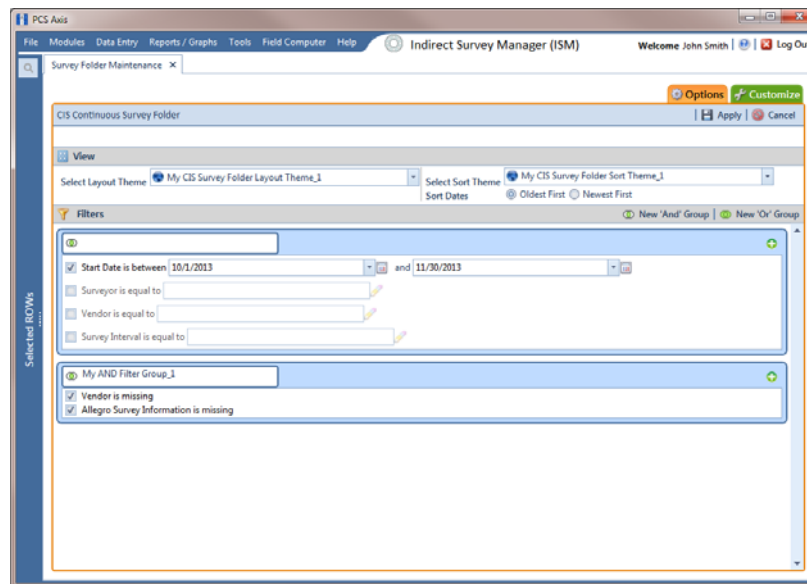

Figure 6-19. Options
- 15** To apply one or more custom filter groups to the *Survey Folder Maintenance* grid (Figure 6-19, page 178):